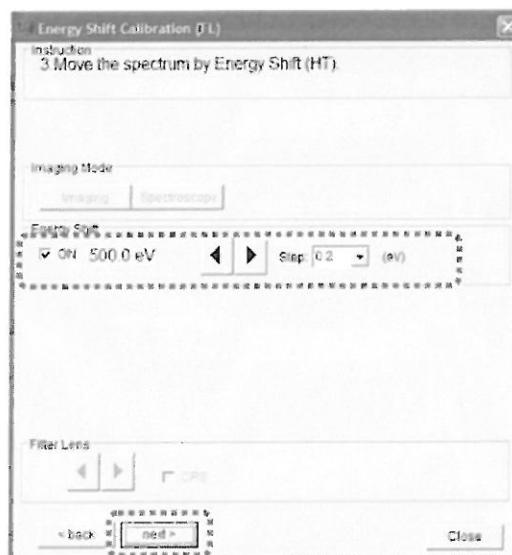

Fig. 5.46 Energy Shift Calibration (FL) - 3. Move the spectrum by Energy Shift (HT)
- Follow "Instruction – 3. Move the spectrum by Energy Shift (HT)" and move the spectrum by the Energy Shift (HT) (Fig. 5.46). When the movement is complete, press the **next** button and proceed to the next window.